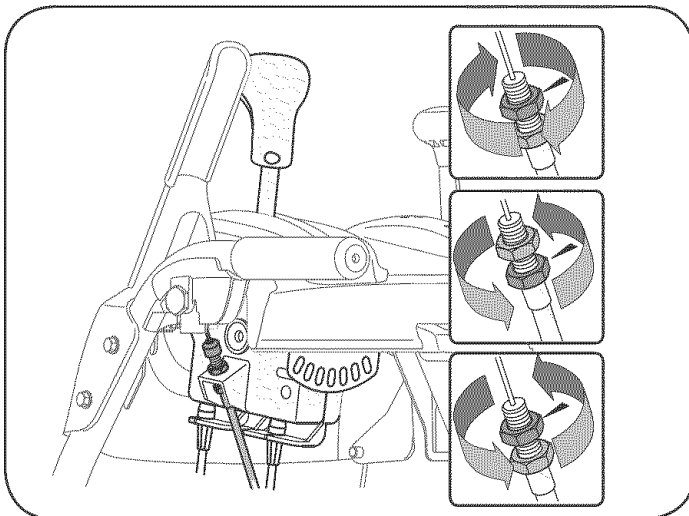

Figure 26
2. Adjust equally on both sides by working on both cables. See Figure 26.